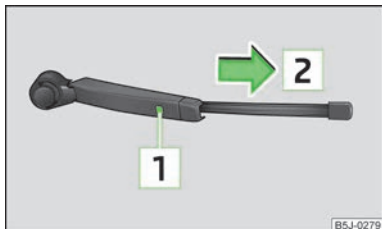

Fig. 34
- Fold the windscreen wiper arm away from the windscreen and position the wiper blade at a right angle to the wiper arm » Fig. 34.